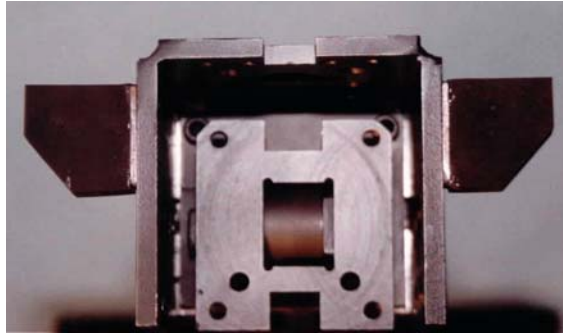

Figure 8.15- Outer stop assembly on UTS weldment
13. Attach the Outer Stop Assemblies (T1SHM008) to the Upper Thoracic Spine Weldment (T1SPW100) using four #10-32 x 1/2" BHSCS {1/8}, as shown in **Figure 8.15**. The angled sides of the stop faces the front of the dummy.